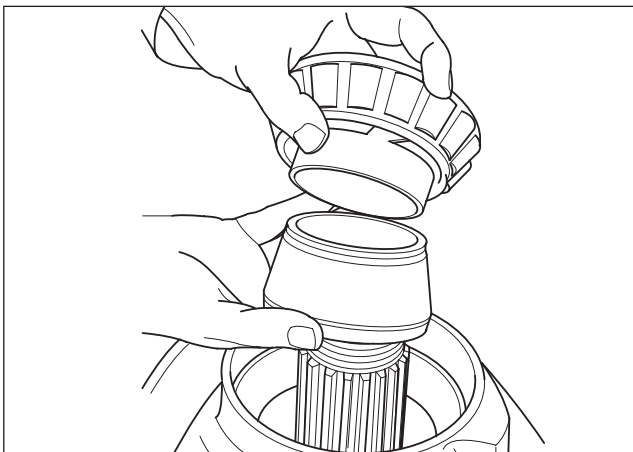

Fig. 2.53
10. Reinstall spacers and bearing cone. (Fig. 2.53)